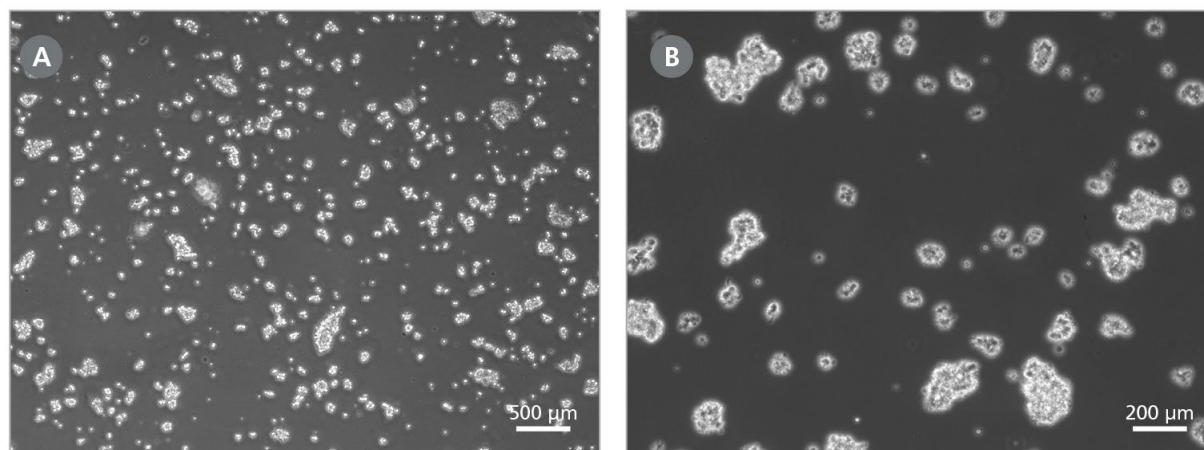

Figure 3. Aggregate Size of hPSCs Following Passaging With ReLeSR™
Note: Optimal dissociation time may vary depending on the cell line used; when passaging a cell line with ReLeSR™ for the first time, the optimal dissociation time should be determined (see Figure 3 and section 8.0). For more information, refer to the product information sheet (PIS) of the respective cell line.
8. Transfer the detached cell aggregates to a 15 mL conical tube using a 5 mL serological pipette (e.g. Catalog #38003). Cell aggregates should be appropriately sized for plating (mean aggregate size of approximately 50 - 200 µm; see Figure 3).